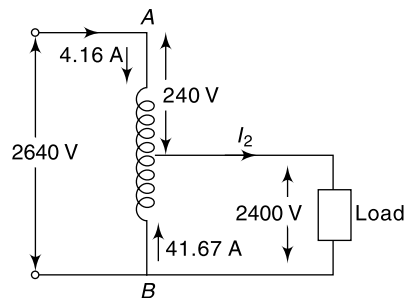

Fig. 8.30 Circuit diagram for Example 8.44
8.44 A 10 kVA, 2400/240 V two-winding transformer is reconnected as a step down auto transformer as shown in Fig. 8.30 and excited by a 2640 V source. The transformer is loaded so that the rated currents of the windings are not exceeded. Calculate the currents in different sections of the auto transformer and kVA output.
The currents in different sections of auto transformer is shown in Fig. 8.30.